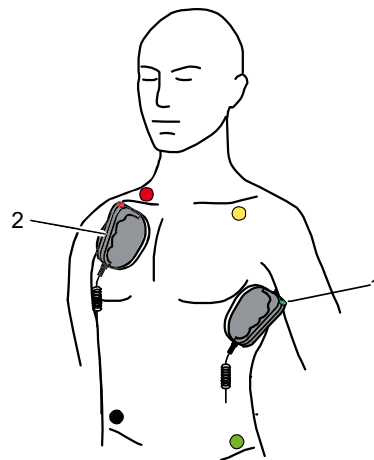

Fig. 5-7 Applying the shock paddles
8. Place the APEX shock paddle (Fig. 5-7, item 1) on the lower left of the thorax beside apex of the heart (5th ICS).
9. Place the STERNUM shock paddle (Fig. 5-7, item 2) to the right of the sternum.